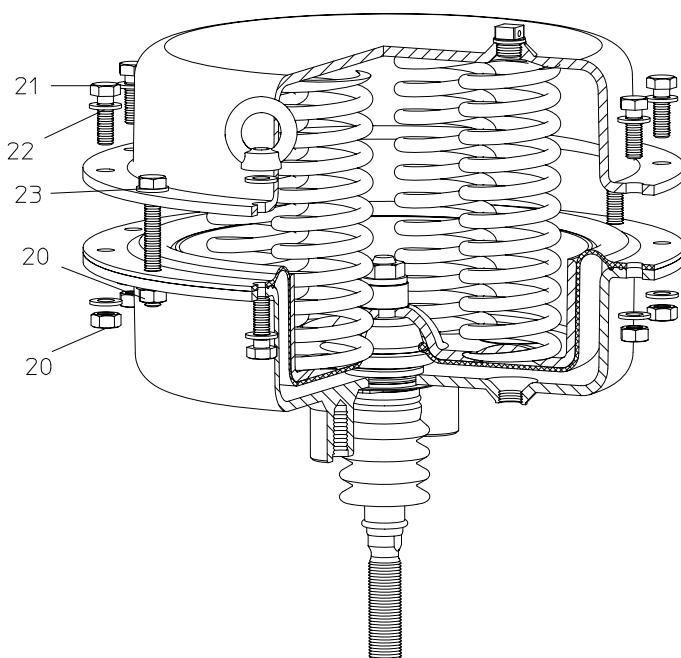

Fig. 20
- For operations with increased initial spring tension (see Fig. 20), additional screws have been provided for. For the sizes DP30 / DP32 and DP33, there are an additional two screws and for DP34, there are four longer screws (23) provided. As the last step, the screws are to be loosened equally, in order to disassemble the initial spring tension.